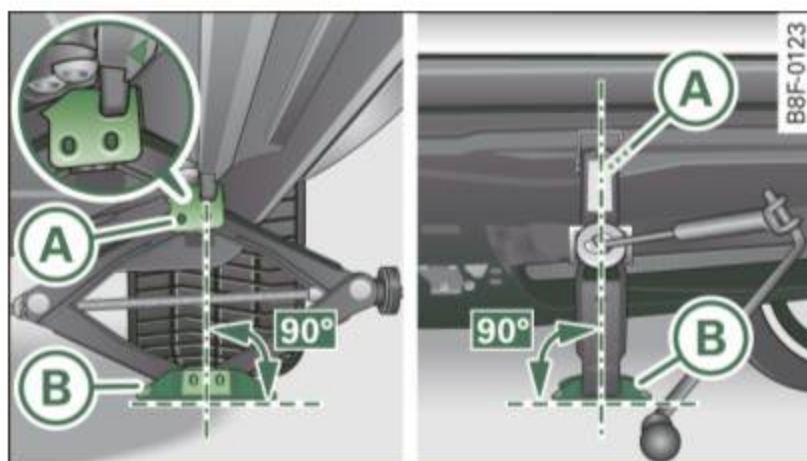

Fig. 232 Close-up:
- Turn the handwheel on the **vehicle jack** until the jaw ⇒ fig. 232 (A) covers the **notch** on the vehicle.
- Align the vehicle jack so the jaw (A) covers the notch and the base plate (B) is flat on the floor. The base plate (B) must be *vertical* under the lifting point (A).